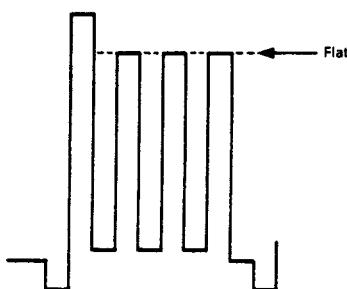

Fig. 8. Wave form of colour output
- (1) Tune receiver to PAL colour bar signal.
- (2) Connect the oscilloscope to pin ③ of the connector CT .
- (3) Set SHARPNESS control at click-stop position and press "OPTIMUM" button.
- (4) Adjust SUB-COLOUR control VR202 so that the tops of the waveforms shall be flat as shown in Fig. 8.